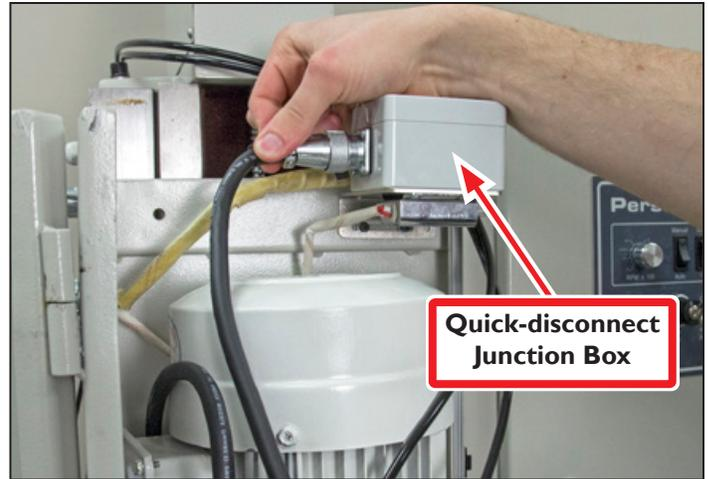

Figure 25
3. Connect loose end of Spindle Cable to Quick-disconnect Junction Box and screw down threaded connector (see **Figure 25**).